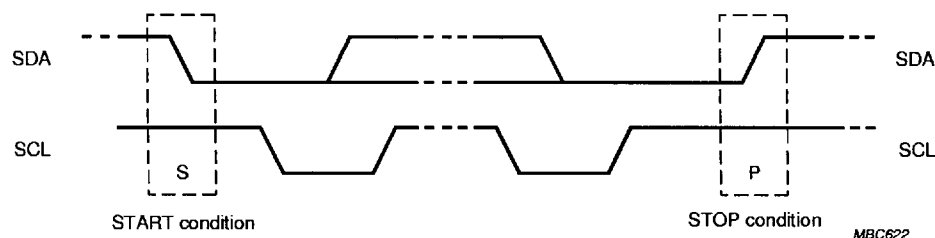

Fig.14 Definition of start and stop conditions.
8.2 Start and stop conditions (see Fig.14)